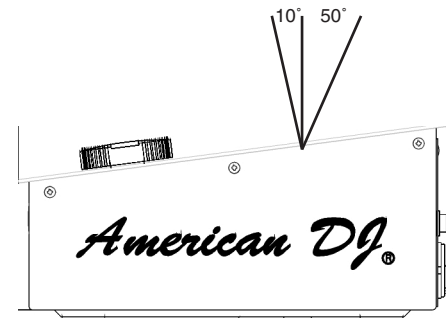

Fig. 2
- The LCD is designed to be clearly visible within the angles shown in Figure 2. Mount the control unit so that the visual angle is within this range.